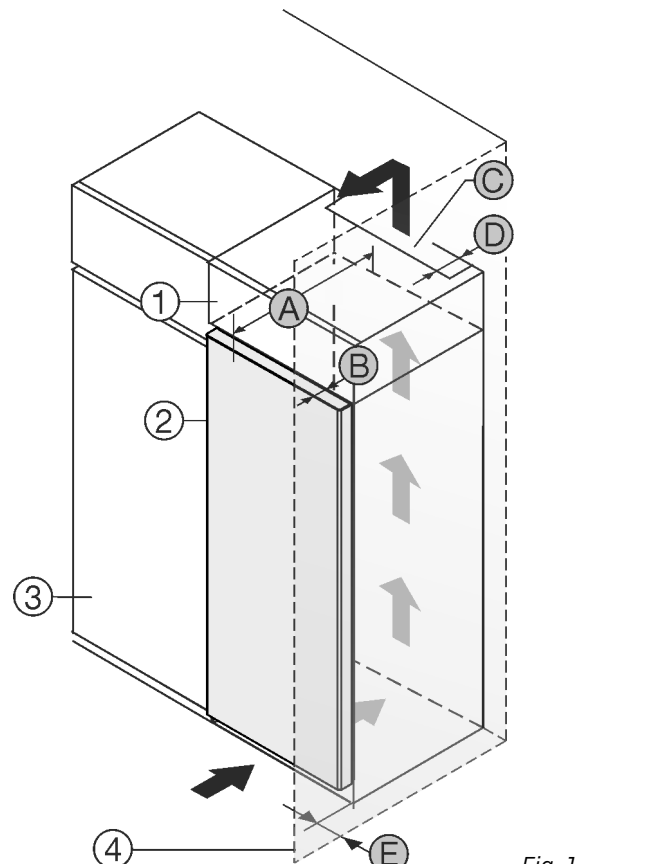

Fig. 1
Set up the appliance directly next to the kitchen cabinet Fig. 1 (3)*.
There must be a ventilation shaft at the depth Fig. 1 (D) of the back of the top cupboard over the entire width of the top cupboard.*
The cross section of the ventilation gap Fig. 1 (C) must be maintained below the ceiling.*
If the appliance is installed with the hinges next to a wall Fig. 1 (4), the distance between the appliance and the wall must be at least 13 mm.*
If the appliance is installed with the hinges next to a wall Fig. 1 (4), the distance between the appliance and the wall must be at least 57 mm. This is how far the handle protrudes when the door is open.*